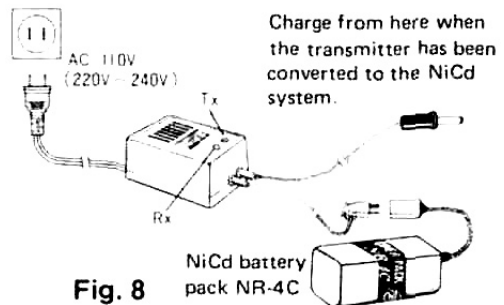

Fig. 8
- Plug the charge (FBC-1 or FBC-2A optional) into a 110V outlet and connect the 3P connector of the charger to the receiver/servo NR-4C NiCd battery pack as shown in Fig. 8. The LED on the charger will light to indicate that the NiCd battery is charging.